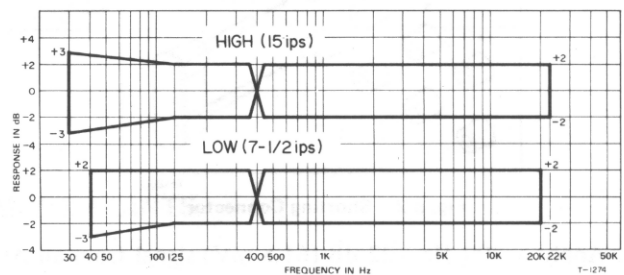

Fig. 8-6 Frequency Response –Playback–
- Play the Test Tape and compare the readings on the VTVM with the response limits given in Fig. 8-6.